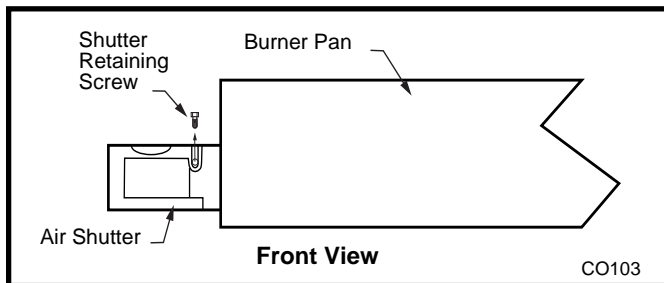

Fig. 59 Remove air shutter from burner pan.
4. Remove air shutters from burner pan by removing shutter retaining screw then air shutter. (Fig. 59)